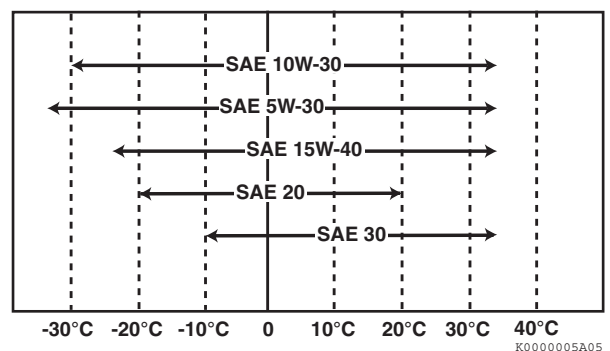

Figure 4-20
- Select the oil viscosity based on the ambient temperature where the engine is being operated. See the SAE service grade viscosity chart (**Figure 4-20**)
Select the appropriate engine oil viscosity based on the ambient temperature and use the SAE service grade viscosity chart in **Figure 4-20**.